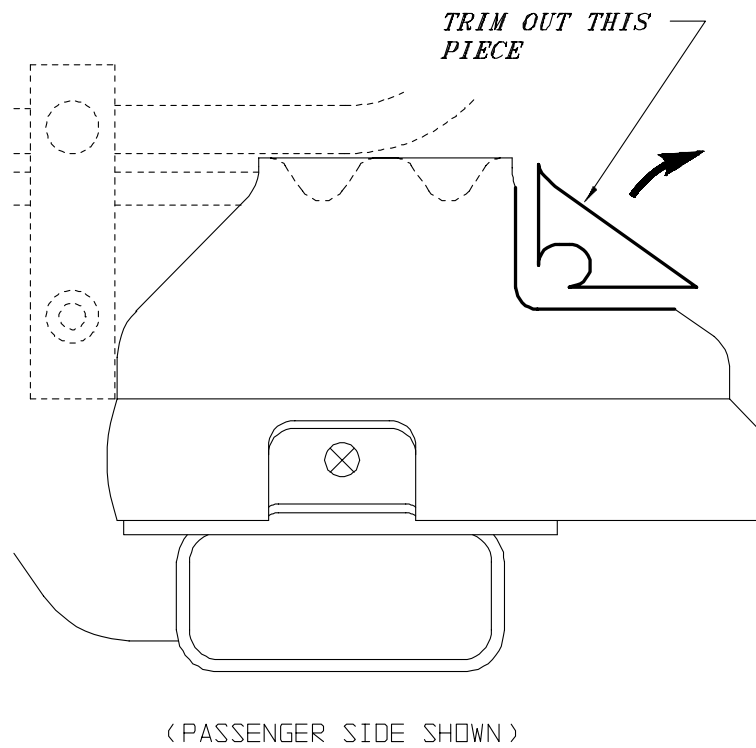

FIGURE 1
3. Refer to **Figure 1** and trim out the triangle shaped piece from the plates on the front of the frame. A hand hacksaw will work well.